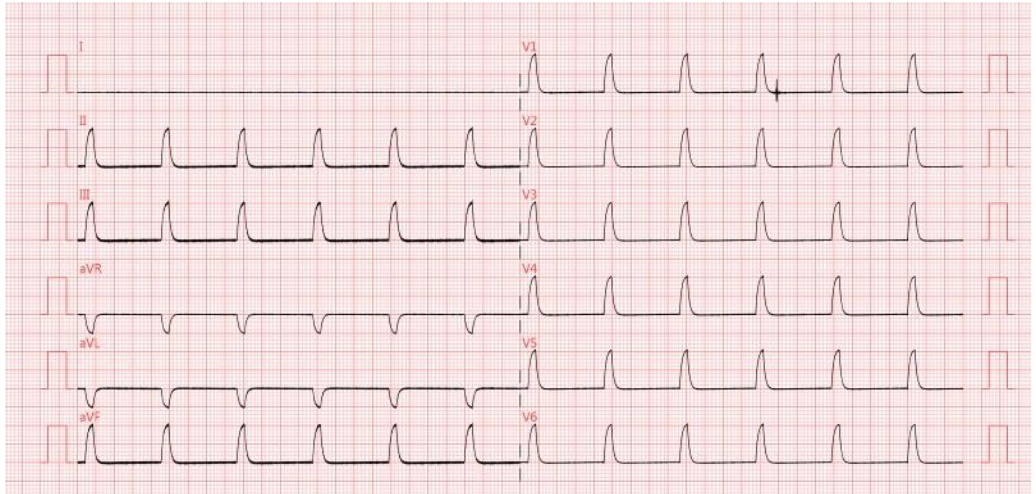

Figure 6. EUT displays the waveform that is generated by HFCN
- *Power-ON the HFCN module B “Simulated ECG Output”, a flashing LED will indicate the power-ON status. Once powered up, the EUT will receive and display a 1 mV simulated ECG signal as illustrated in figure 6.*
- *Verify lead II \ lead III \ V1 ~ V6 appears 1mV simulated ECG signal as figure 6.*
- Verify lead II 、 lead III 、 V1 ~ V6 appears 1mV simulated ECG signal as figure 6.